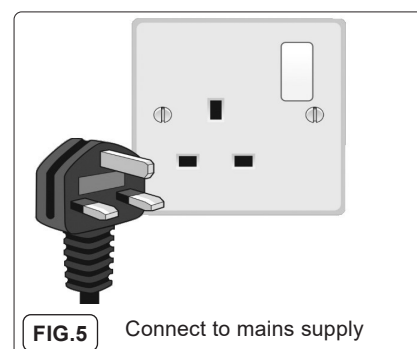

FIG.5
6.1. SWITCH ON MAINS SUPPLY (FIG.5).